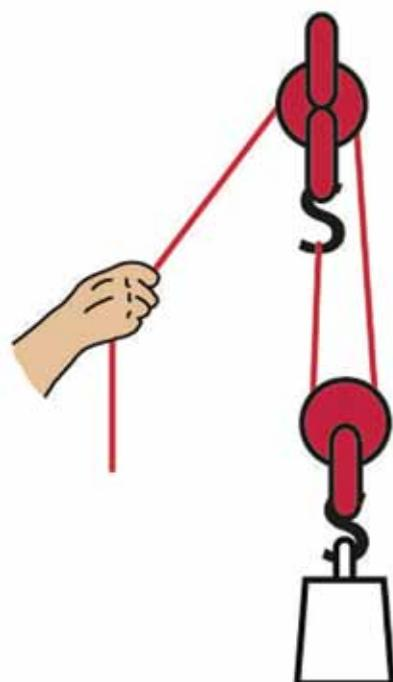

Figure 5: If you connect two pulleys to a piece of rope like this, you get a mechanical advantage.
Look at Figure 5. A person uses two pulleys to lift a weight. One pulley wheel is connected to the roof. The second pulley wheel hangs on a loop of rope. The two pulleys and the way the rope is wrapped around both pulleys, forms a pulley system. The pulley system makes it easier to lift a load. Here is how it works:
- Two pulleys connected to a single piece of rope, as shown in Figure 5, give a mechanical advantage.